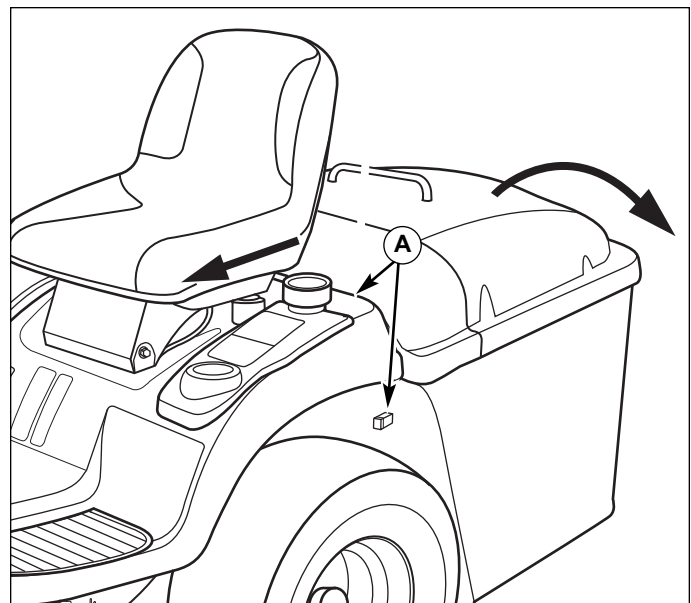

Figure 8. Emptying the Hopper
1. Move the lock lever (A, Figure 8) backward to unlock the catcher from the rear support arms.